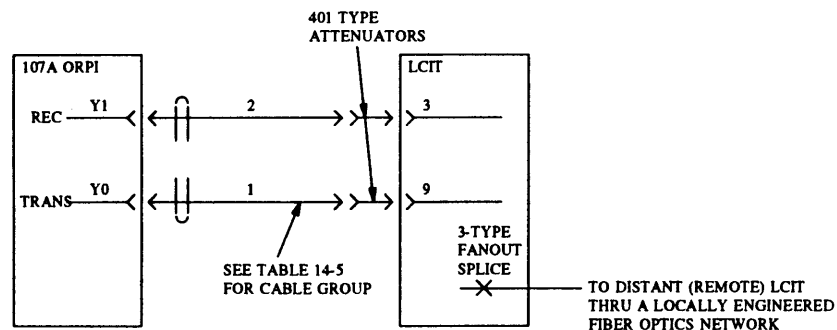

Figure 27-2. ORPI to Central LCIT Connections
Use table 27-1 to determine the proper cable group. Make the connections between the LCIT and ORPI using the selected cable and figure 27-2. Cables with 50 micron diameter are coded blue (1) or white (2); 62.5 micron cables are gray and stamped with "1" or "2." DEFINITY Generic 2 installations use the 3B/ST fanouts. Previously installed systems use 3B biconic fanouts, but they do not have to be replaced. For LCITs with biconic connectors, GRP465 must be used with GRP509.